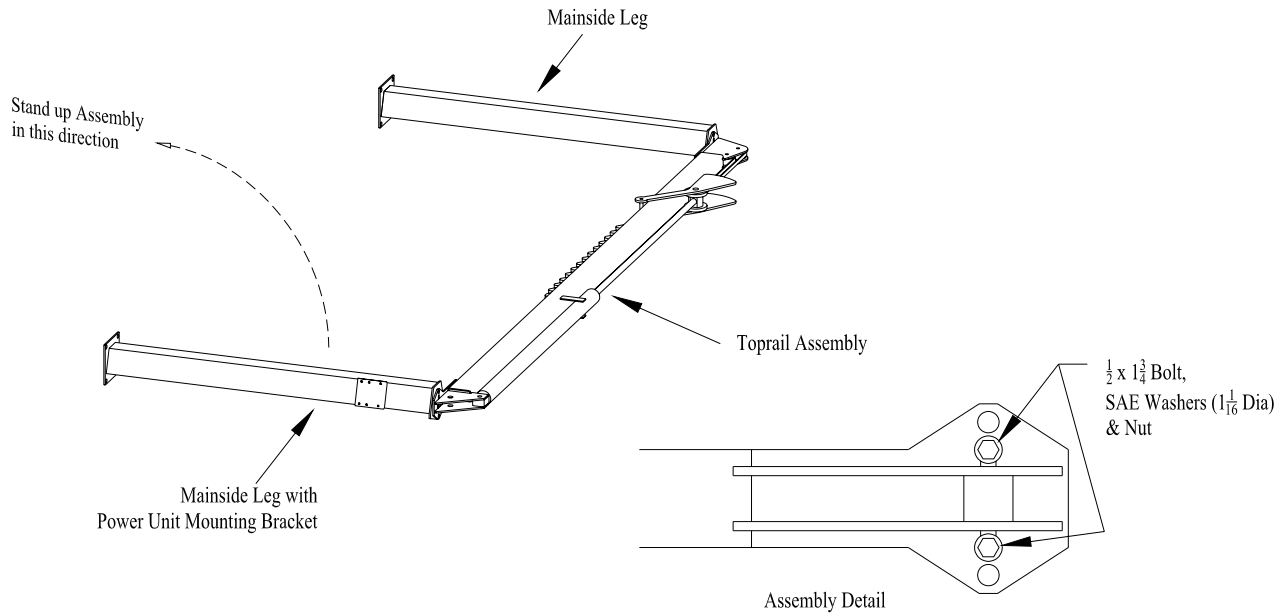

Figure 3
9. Locate the toprail **with additional mounting tab** located at the end of the toprail. Position this toprail and mainside legs for the **left** hand lift as shown in Figure 3. The cylinder is positioned with its ear end at the front of the lift. The toprail should be resting on blocks to assist in positioning the parts. The Power Unit leg has a formed bracket on one side for mounting the power unit. This leg should be located on the rear of the lift. Bolt the toprail to the mainside legs using the $\frac{1}{2}$ x 1-3/4 bolts, washers, and nuts provided. See Figure 3.
35. Locate the toprail **without** the additional mounting tabs. Position this toprail and mainside legs for the **right** hand lift as shown in Figure 3. The cylinder is positioned with its ear end at the rear of the lift. The toprail should be resting on blocks to assist in positioning the parts. The Power Unit leg has a formed bracket on one side for mounting the power unit. This leg should be located on the rear of the lift. Bolt the top rail to the mainside legs using the ½ x 1-3/4 bolts, washers, and nuts provided.